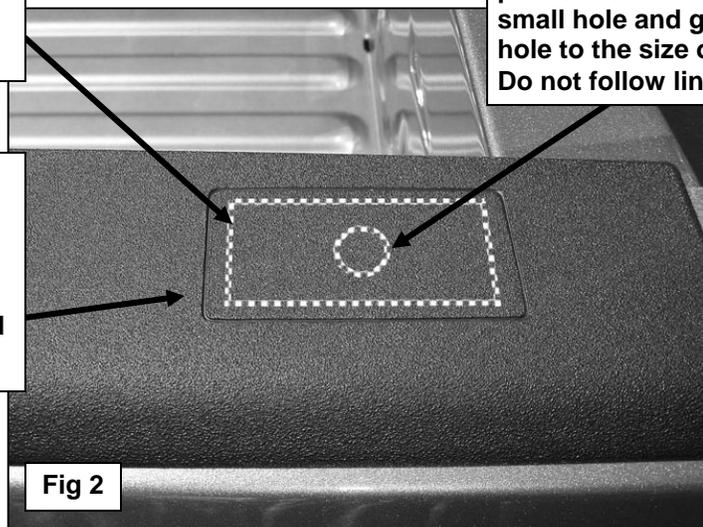

Fig 2
- b. On vehicles without removable covers:** Locate the center of the stake pocket. Carefully cut or drill a small opening in the plastic cover in the center of the stake pocket. **WARNING**, verify exact location of stake pocket before drilling/cutting plastic cover or damage to top of bedside may result. Gradually enlarge the opening to the size of the stake pocket only, **(Figure 2)**. **IMPORTANT, DO NOT** cut along factory lines molded into the plastic cover as these lines may not represent the correct location or size of the stake pocket and may be larger than the actual stake pocket opening.